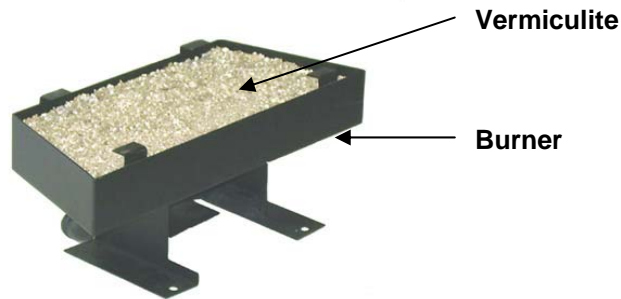

**Fig. 3
8. Determine the valve system that is installed on the appliance, then proceed with lighting the pilot. Refer to "LIGHTING INSTRUCTIONS" section pages 10-11. Check the pilot flame and main burner operation prior to proceeding with the burner media and log or coal installation (see Fig. 3).